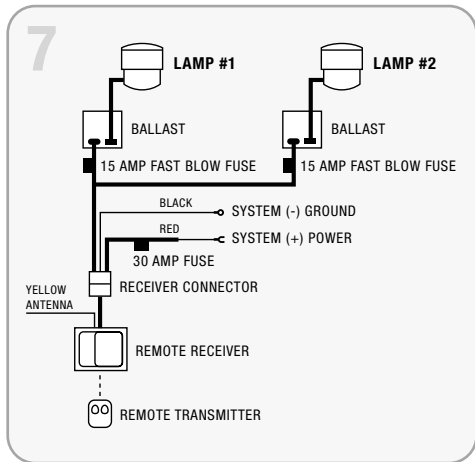

FIGURE 7
- 2 Before mounting lights, lay out the wiring harness in the engine compartment to verify cable lengths and positioning for the ballast brackets and remote receiver unit (see FIGURES 7 and 8).